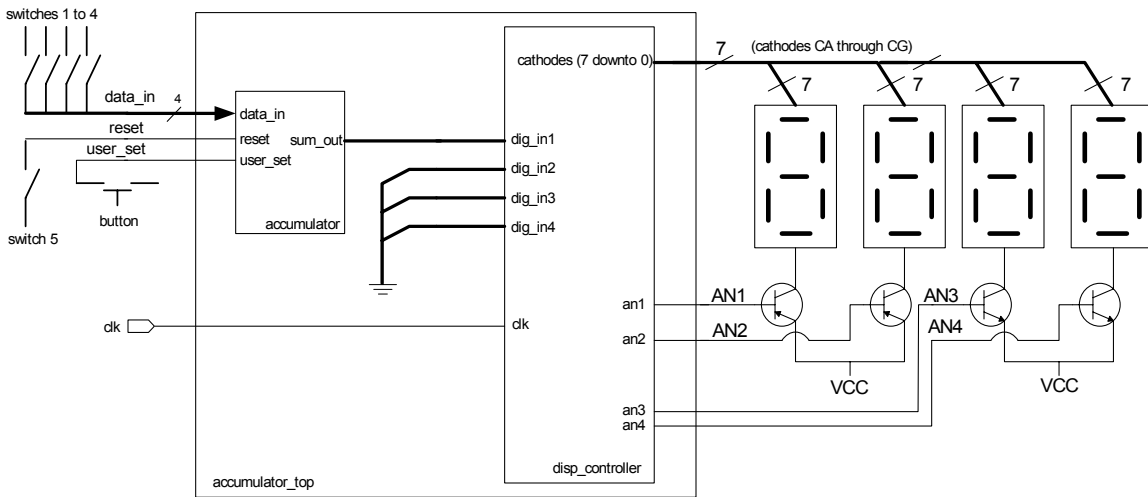
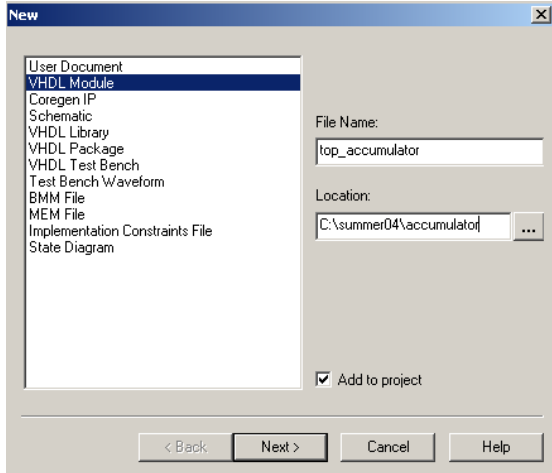
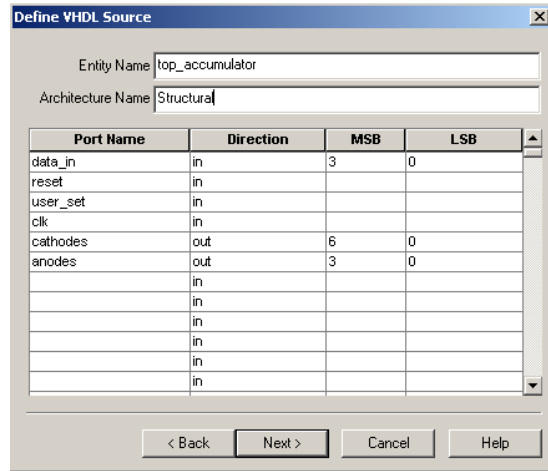

Figure 20; Accumulator implementation schematic.
Figure 21
Figure 22
The accumulator will be implemented in the D2XL board following the schematic shown in figure 20.
3. Analyzing `disp_controller.vhd` description; Open the file `disp_controller.vhd` by double clicking on it under **Sources in Project** window. This file describes the “disp\_controller” block shown in figure 20. It is a variation of the display controller we saw in previous labs. Each one of the inputs “`dig_in1`” to “`dig_in4`” will correspond to the digit displayed at each of the seven segment displays.
4. Creating a new source file; Go to **Project** → **New Source**, select **VHDL Module** and enter the name “`top_counter`” as shown in figure 21. You will get a window as shown in figure 22, to define the VHDL source; fill out the architecture name as `structural` and declare the inputs and outputs of the full adder circuit following the logic diagram in figure 20. Click **Next** → **Finish**. The result will be a new source file where the skeleton is ready for you to fill it out with the description of the circuit.
5. Declaring components; Following logic diagram in figure 20, you will need two kind of components; an accumulator and a display controller. Remember that a component declaration goes between “*architecture structural of top\_accumulator is*” line and the “*begin*” line.
6. Connecting components; Component instantiation (section where you describe the connections between components) goes between the lines “*begin*” and “*end structural*” in the VHDL description of the system. Follow the logic diagram in figure 20 to describe the connections between the components and inputs/outputs of the system.